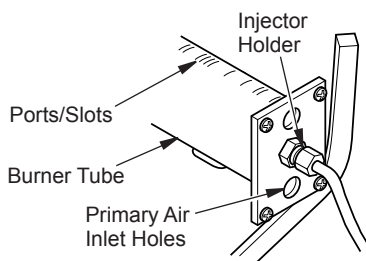

Figure 50 - Injector Holder On Outlet Burner Tube
2. Inspect burner, pilot, and primary air inlet holes on injector holder for dust and dirt (see Figure 50).